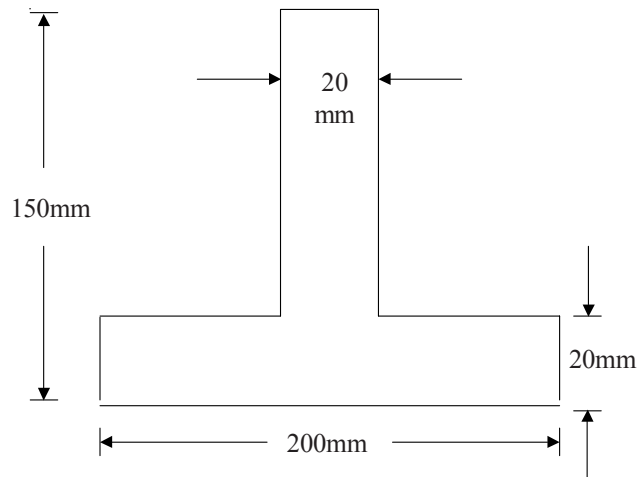

Fig.3.29
- Find M.I. along X-X and y-y for the section shown in fig.3.29